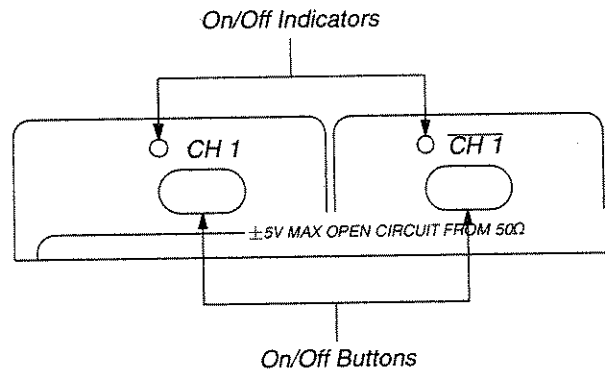

Figure 2-23: Channel On/Off Buttons and Indicators
- Step 14:** Press the **CH1** On/Off button on the front panel to switch on waveform output. Figure 2-23 shows the channel On/Off button and indicator.